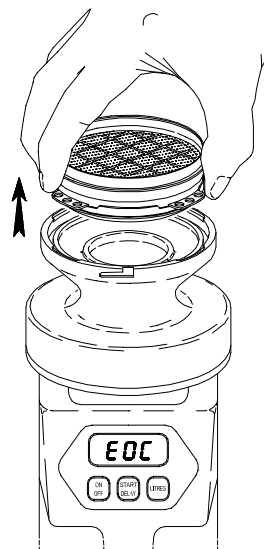

Fig. 6
8. To remove the cassette from the Tester head, lift the cassette while firmly holding the edge (Fig. 6).